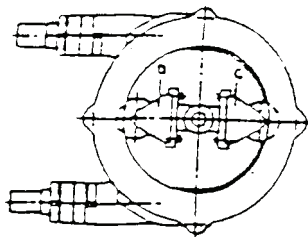

Fig. 4
4) To complete the setting operation, it will be sufficient to place an identical shimming under the roller holder D as indicated in Fig. 4.